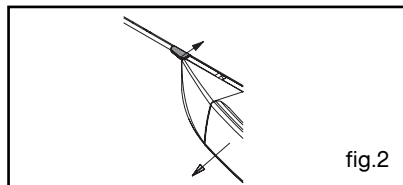

fig.2
- Press the lever and then open the door (fig.2).